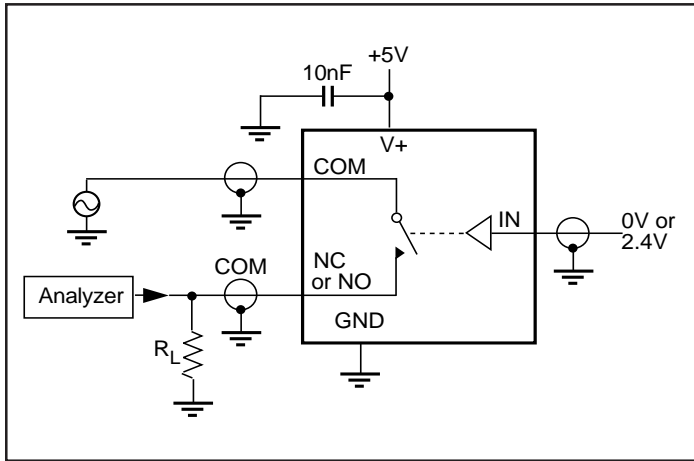

Figure 5. Off Isolation
7. Off Isolation =  $20\log_{10} [ V_{COM} / (V_{NC} \text{ or } V_{NO}) ]$ . See Figure 5.